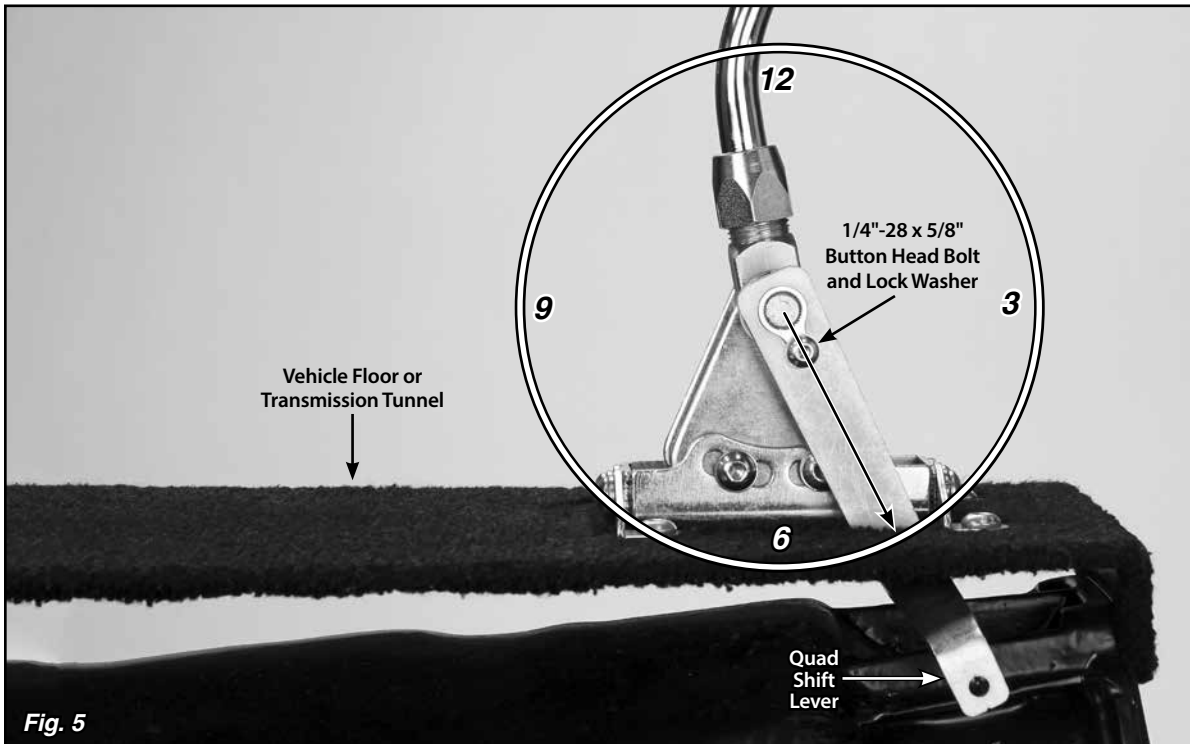

Fig. 5
Step 9: Make sure the shifter lever is in the Park position. Temporarily place the quad shift lever in position on the quad lever bushing as shown in **Fig. 5**. Check for interference with the driver side rear floor mount tab or the vehicle floor. With the shifter lever in Park, you want the quad shift lever to be as close to the 4:30 - 5:00 position as the floor mount tab will allow, without the quad shift lever touching the floor mount tab or floor.